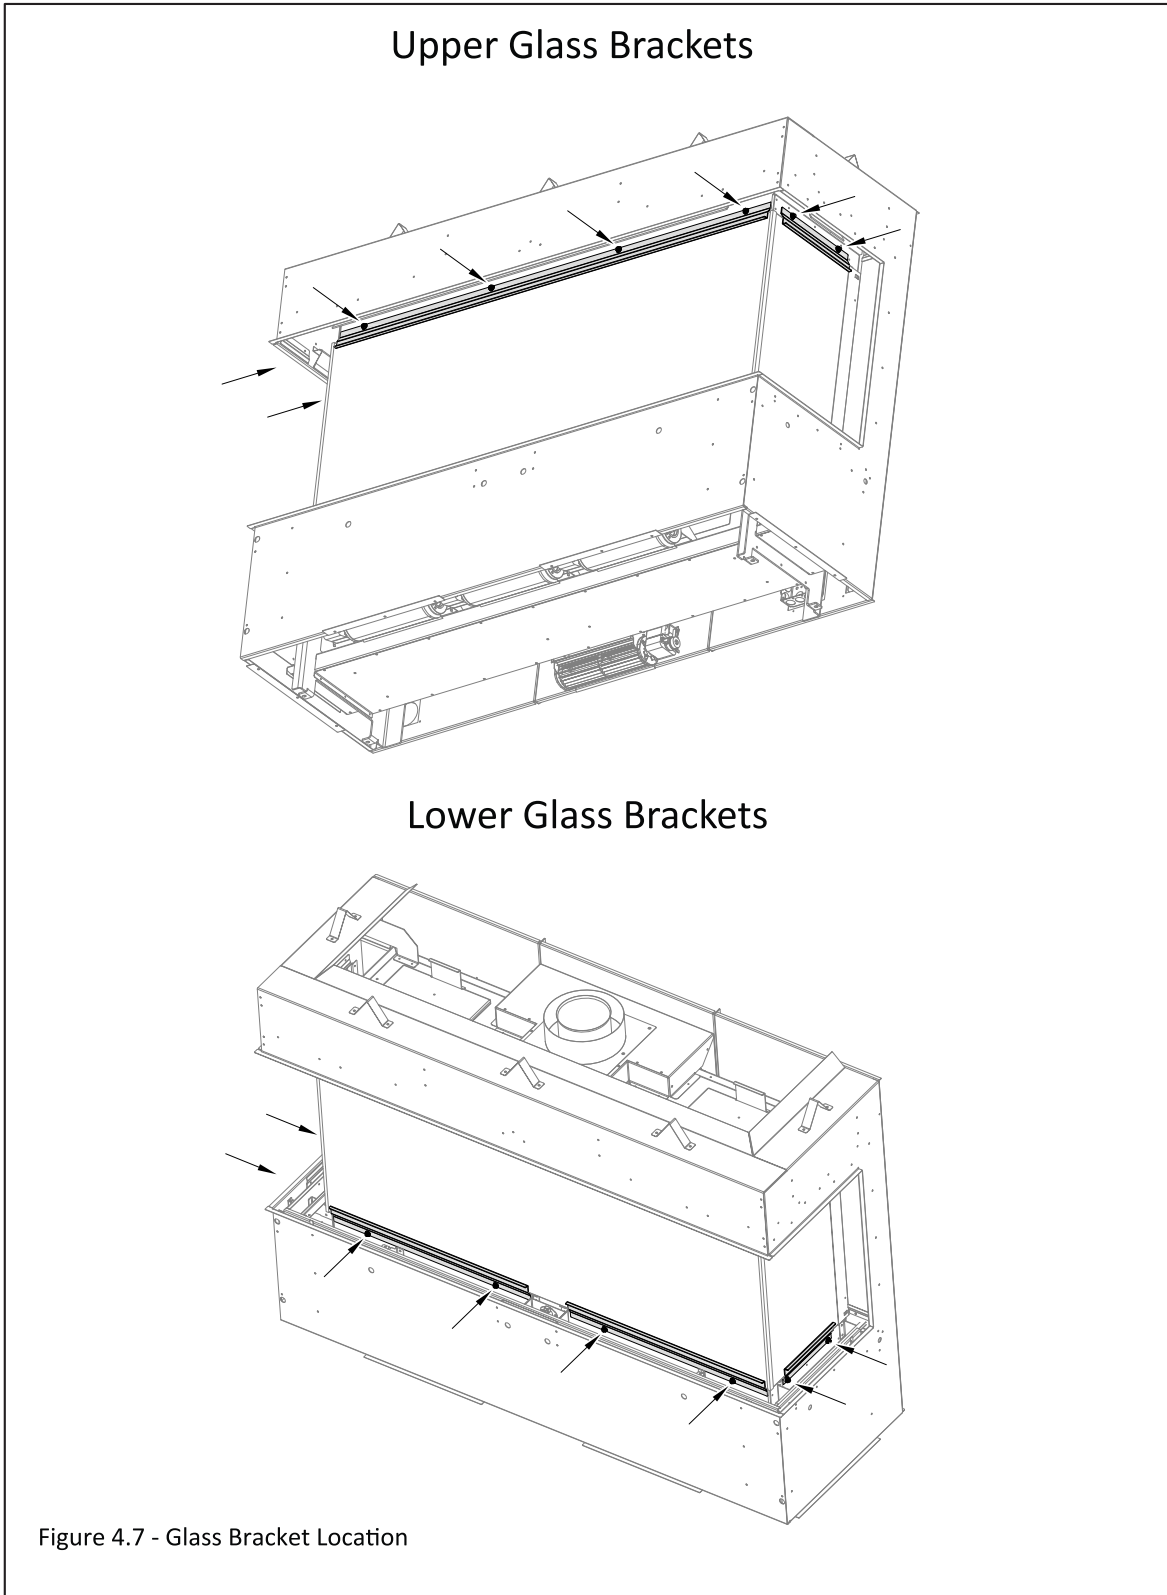

Figure 4.7 - Glass Bracket Location
3. Remove the 7/16" nuts that secure the upper glass bracket and remove this bracket for the front glass as shown in Figure 4.7. Save this bracket to reinstall the glass.
4. Loosen the 7/16" nuts that secure the lower glass brackets as shown in Figure 4.7. You do not need to remove these brackets.
4. Secure the remaining side firebox glass bracket with the 7/16" nuts. Tighten all the 7/16" nuts that secure the upper and lower glass brackets as shown in Figure 4.7.